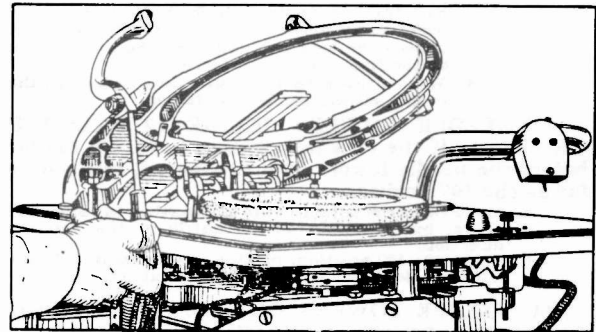

Fig. 10—Adjusting Hopper Arm Screws
- Hopper arm improperly aligned, allowing the two bottom records to pass under the arms. Lower the hopper arms by turning the small adjusting screws as shown in Fig. 10, so that both hopper arm spacers touch the lift ring when the latter is in its raised position and there are no records in the hopper. Spacing for gates on hopper arms should be between .093" and .107".